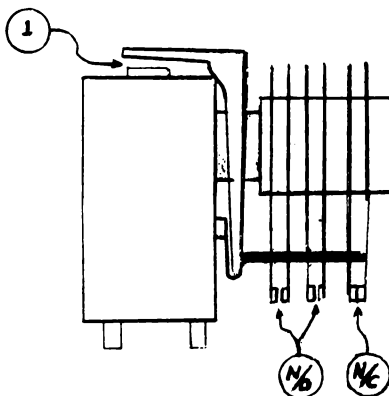

Figure 4-8
(1) Adjust the armature backstop so that a .020 shim can be placed between the armature and the relay core.
(2) Adjust the relay transfer contacts so the push rods rest on the armature arms. A check of the normally closed contacts should be made before any adjustment on the transfer contacts is made. If the normally closed contact is out of adjustment, it will prevent the push rods from going back all the way.
(3) Adjust the N/C contacts to make with a .012 shim at (1) (see Figure 4-8) and break with a .010 shim at (1).
(4) Adjust the N/O contacts to make with a .010 shim at (1) and break with a .012 shim at (1).